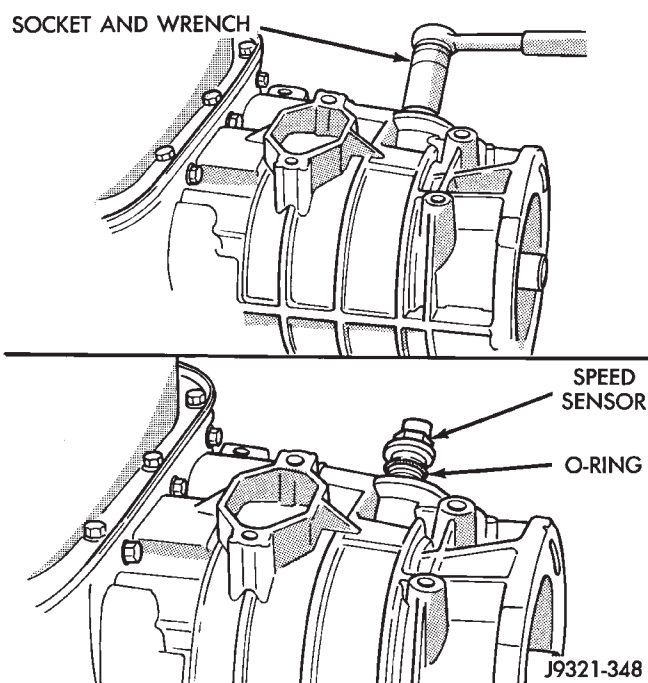

Fig. 244 Transmission Speed Sensor Removal/Installation
(1) Remove transmission speed sensor and O-ring seal from overdrive case (Fig. 244).